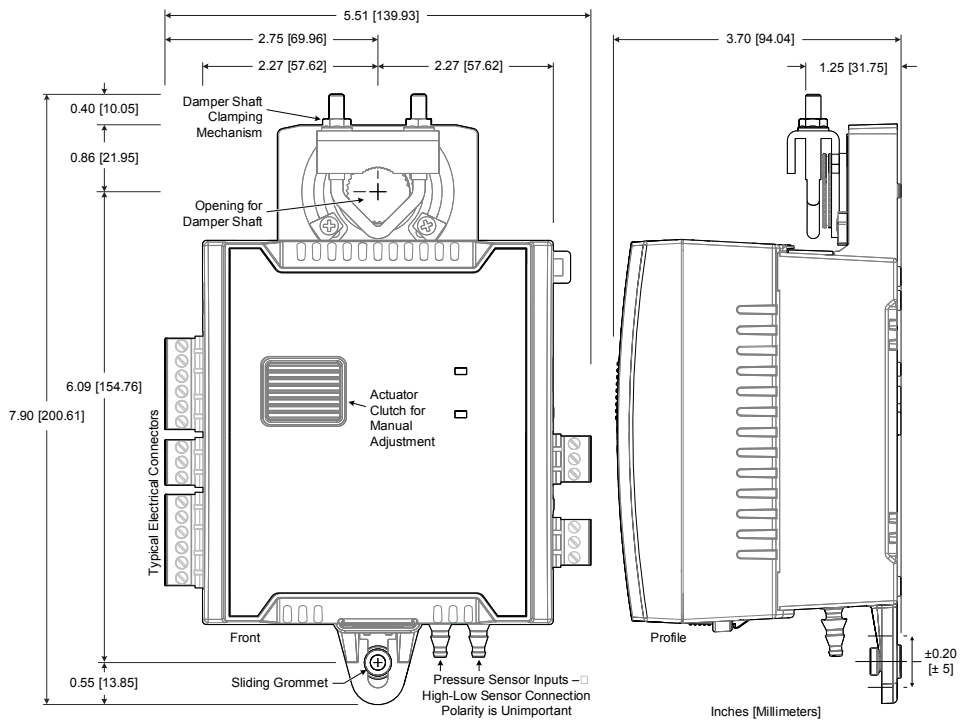

Figure 3: ECB-VAV Dimensions and Components
6. Determine the direction required to close the damper: Clockwise (CW) or Counterclockwise (CCW). Turn the damper shaft with a pair of pliers to fully close the damper for 90° boxes or fully open the damper for 45° or 60° boxes
7. Press and hold down the *Actuator Clutch for Manual Adjustment* button (see Figure 3), and turn the controller's shaft coupler until it touches the mechanical end-stop to either the fully closed position (90° boxes) or the fully open position (45° and 60° boxes).